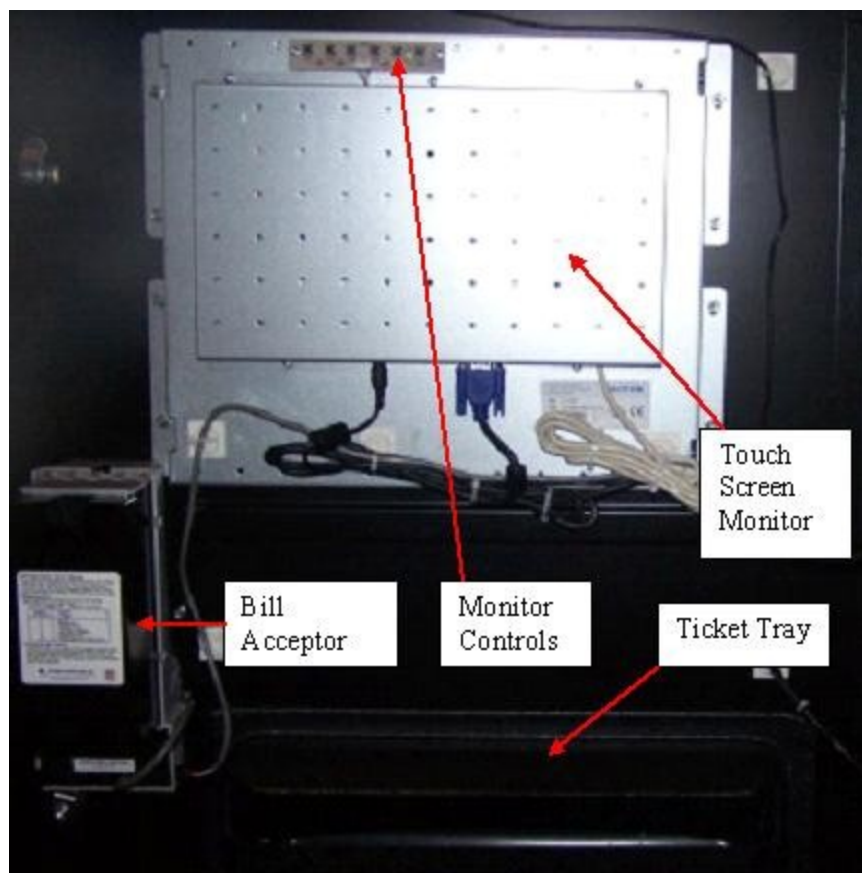

Figure 14: Inside the Door
- c. Monitor Adjustment (See Figure 14)